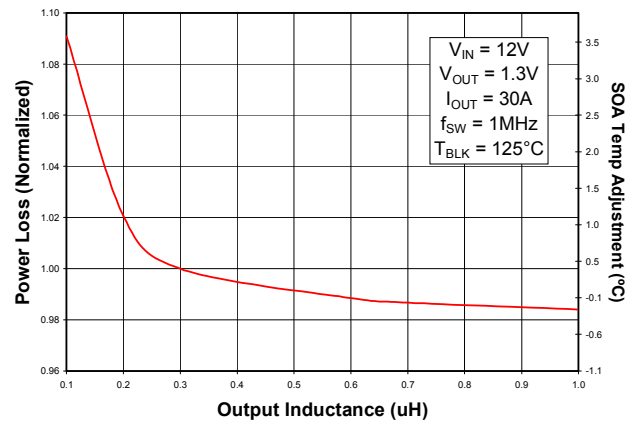

Fig. 6: Normalized Power Loss vs. Inductance
- (Fig. 6) Normalized power loss for inductor value  $\approx 1.02$
- (Fig. 6) Normalized SOA Temperature for inductor value  $\approx 1.1^{\circ}\text{C}$